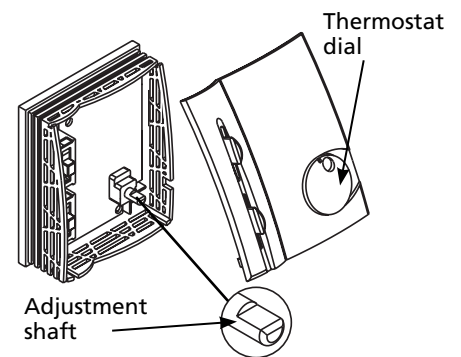

Figure 8 – Make sure the Dial is Vertical and the Adjustment Shaft is Horizontal
2. Align the thermostat adjustment shaft horizontally as shown in Figure 8.